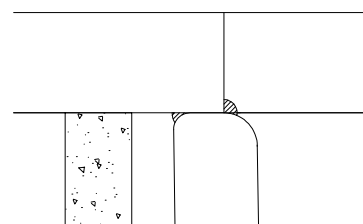

Fig 2.
Note: if the cut out is adjusted to either overhang or step back from the sink rim sufficient surface area must be left to allow a water tight seal, fig. 2 shows the cut out flush to the bowl radius.
8. Gently lay the worksurface onto the sink, carefully align the sink rim with the cut out shape with equal spacing on all sides (fig 2).